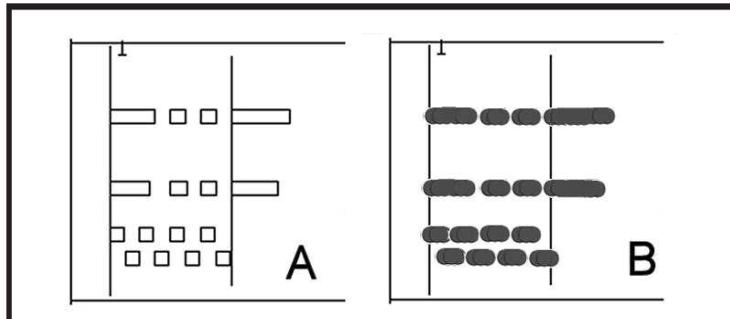

Figure 4. Different interpretations which printing or punching software may make from the same MIDI file.
**Figure 4** shows how different printing or punching software algorithms might make the same MIDI file sound quite differently.